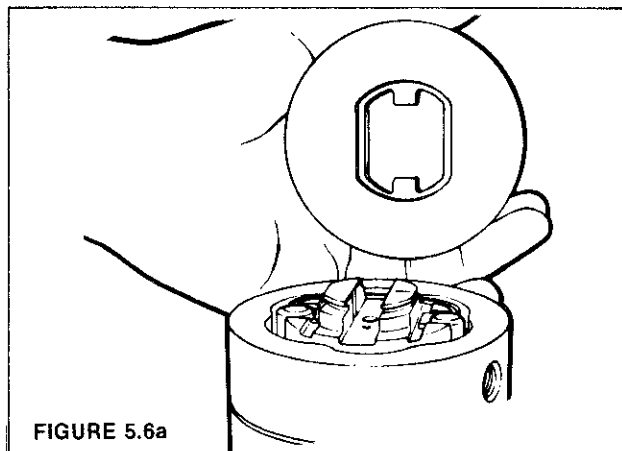

FIGURE 5.6a
STEP 6 Place the weight retainer assembly on the rotor (Figure 5.6a).